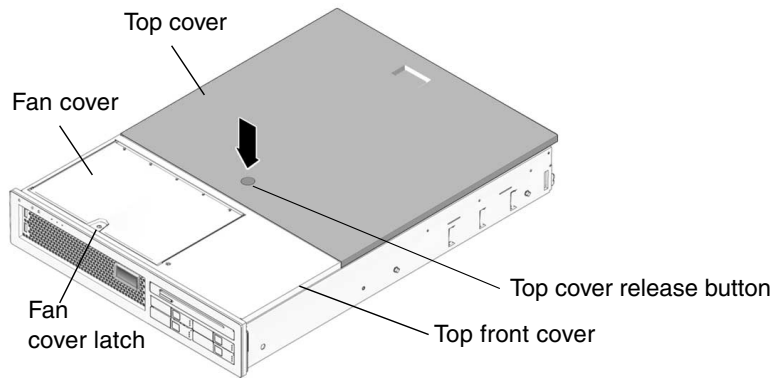

FIGURE 5-3 Top Cover and Release Button
1. Press the top cover release button (FIGURE 5-3).
2. Lift the fan cover latch (FIGURE 5-3) and open the fan cover.